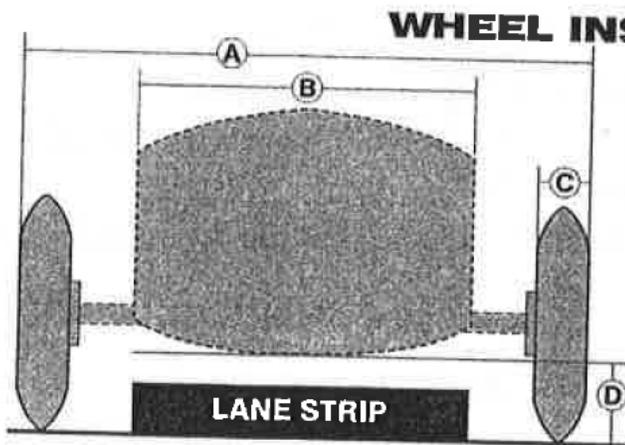
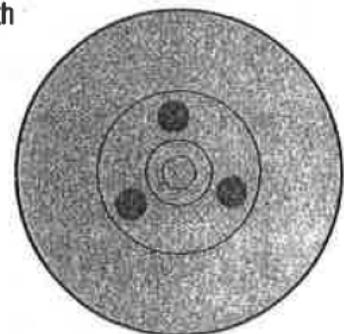

FIG. 1
FIG. 2
The side of the wheel which has 3 round impressions in a triangle around the axle hole has the hub extending from the wheel farther than the opposite side. (See Fig. 2)
1. When mounting wheels, be sure the hub on the wheel is next to the car body as in Fig.1. (See Fig. 2 for location of the hub.)